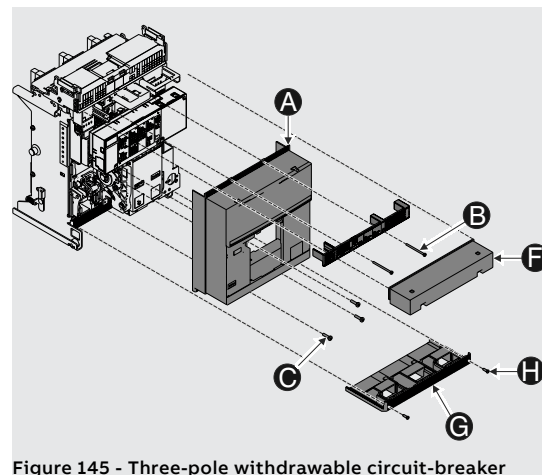

Figure 145 - Three-pole withdrawable circuit-breaker
3. With circuit-breaker in the withdrawable version (Figure 145 - Three-pole withdrawable circuit-breaker), remove the protection (F) and the terminal-cover (G) by removing the screws (H)